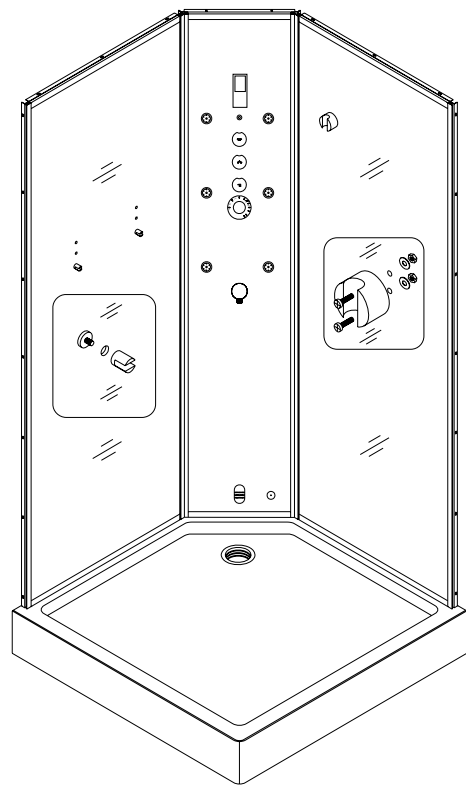

Fig. 6
7. Mount the **Hand shower bracket (16)** on the right stationary glass and the **Glass shelf holders (15)** on the left. See Fig 6 for details.